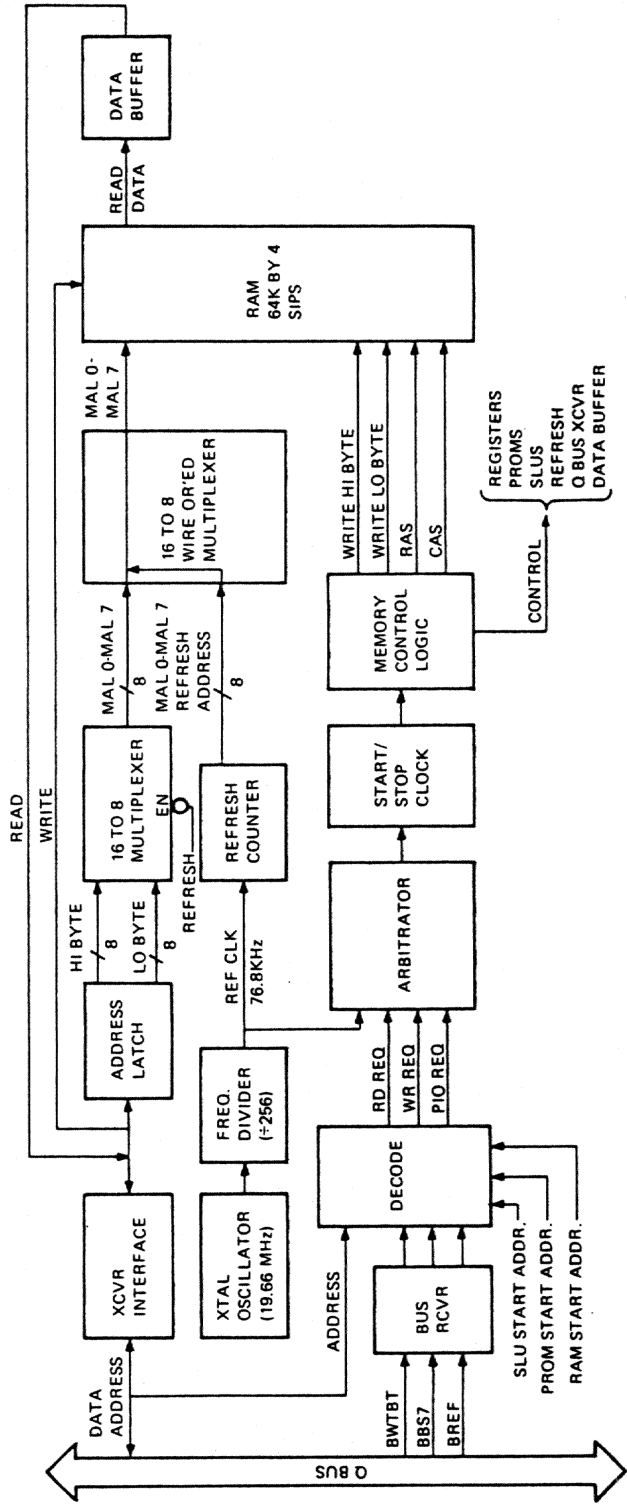

Figure 2-3 RAM Memory Functional Block Diagram
Figure 2-3 shows a simplified block diagram of the RAM memory. The memory consists of 64K by 4 Single In-line Packages (SIPs). The following paragraphs describe read/write memory access, refresh access, and the arbitration logic for memory access.
The SLU registers for both SLUs are addressed via address lines A2, A1, and A0 from the address latch (Figure 2-8). The address latch and decoder are the same as shown in Figure 2-3. A2, A1, and A0 are applied to both SLUs. The SLU selected is determined by the chip select (CS) input to the DLART and is a function of the decode logic.